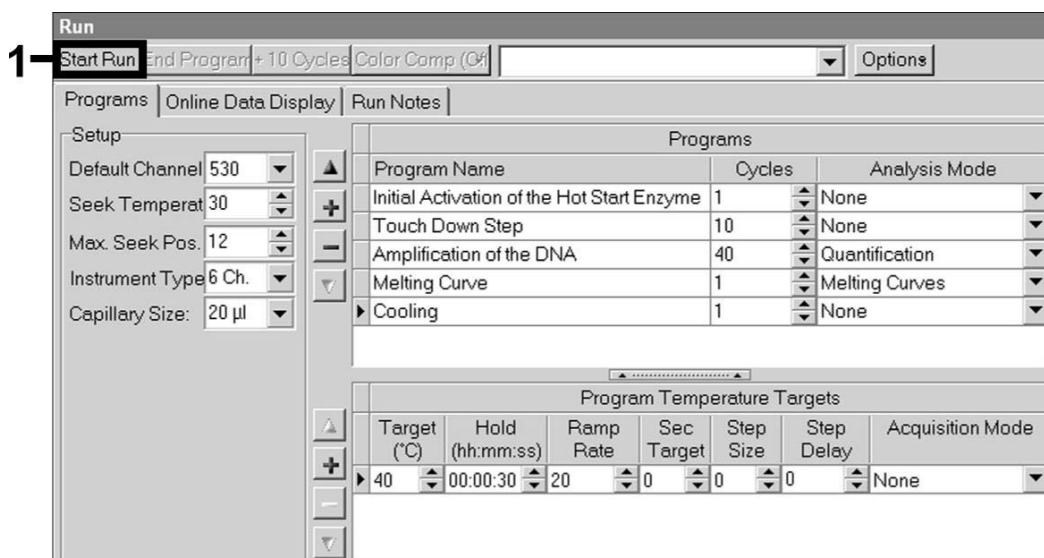

Fig. 13: Start of the PCR run.
- In order to start the PCR run, change to the field *Run* and activate the function *Start Run* (see Fig. 13). The PCR program will start after entering the location where the data should be saved.